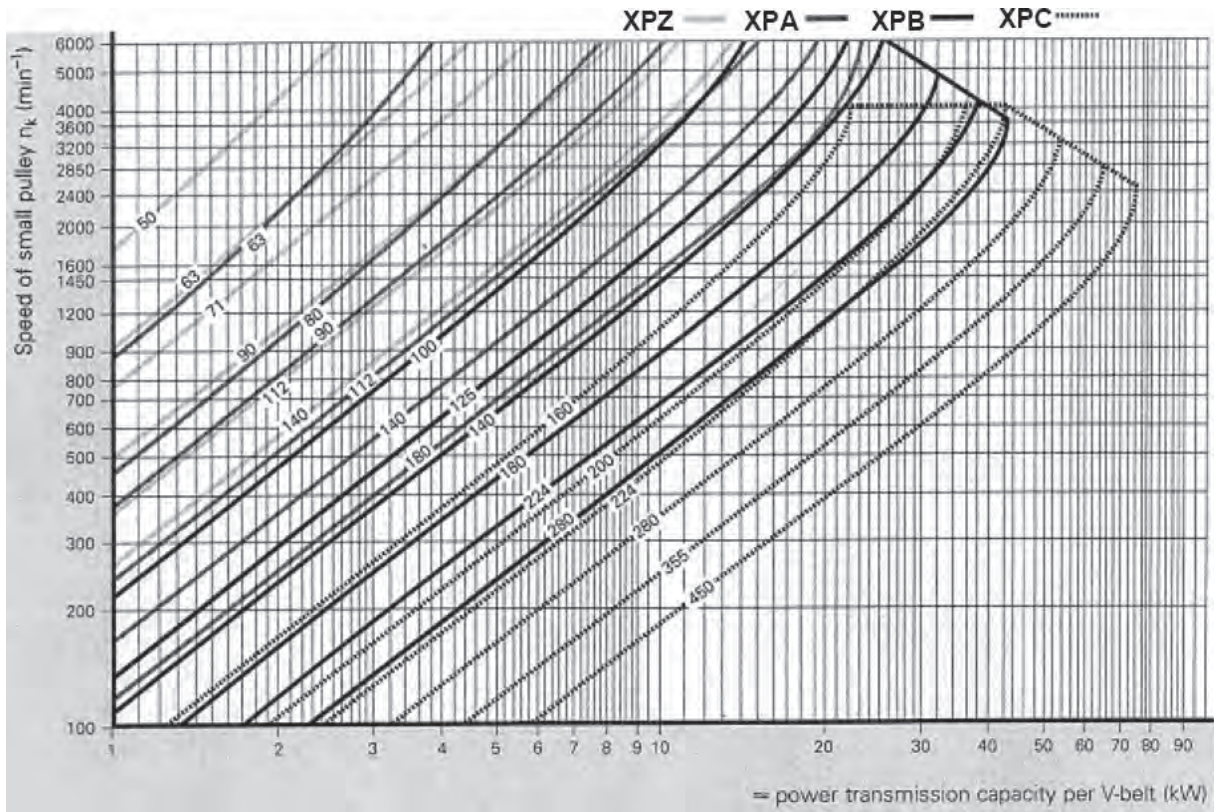
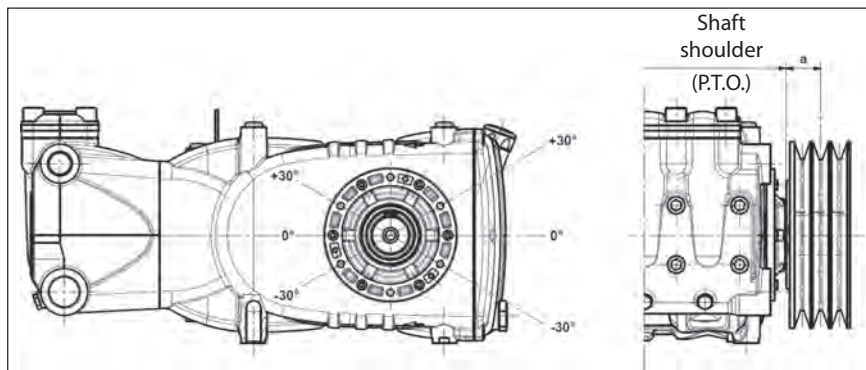

Fig. 7
Fig. 10
For these pump models, we recommend to use No. 3 XPB belts (16.5x13 serrated). Use an XPC profile only for long durations. Both the characteristics and transmissible power of each belt can be verified in the diagram in Fig. 7, in relation to the number of rpm normally declared by the manufacturer. Minimum duct pulley diameter (on pump shaft): ≥ 160 mm. The radial load on the shaft must not exceed 4500 N (value necessary for Layout definition). The transmission is considered adequate if the load is applied to a maximum distance $a = 50$ mm from the shaft shoulder (P.T.O) as shown in Fig. 10.
- b) Use high performance belts – for example **XPB** instead of **SPB** – as a lower quantity of belts for the same transmitted power may be necessary and a consequent shorter resulting distance compared to the shaft shoulder (P.T.O) “a” of Fig. 10.